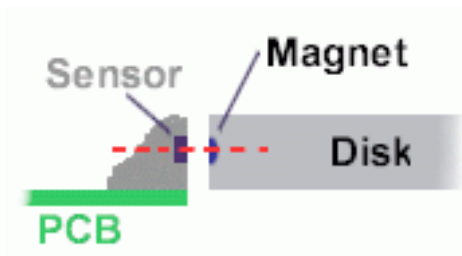

Figure 7 Ensure correct alignment of magnet disk and sensor.
- Take care that the magnets in the disk are approximately in the same height as the sensor, see figure 7 on the next page.